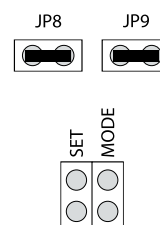

Figure 10
4. Set the jumpers on JP8 and JP9 pins. See Figure 10 for correct jumper position.